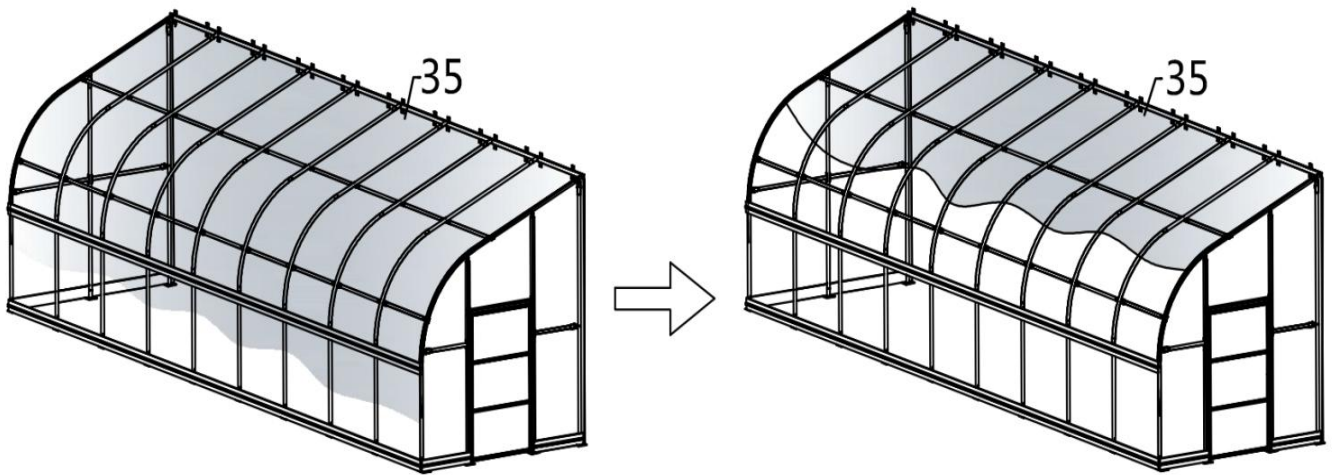

Figure 11
- After installing tarpaulin on both sides, install top cover film (#35) (refer to figure 11). First clamp tarpaulin with clip spring from the top, and then to the side.
- (15) Clip spring (#17)